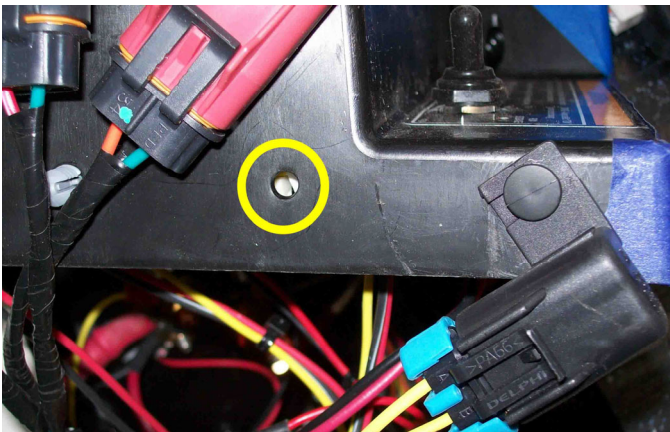

Fig. 8
2. Relocate the fuse holder to the next hole to the left of the original placement. The location is seen in the picture and is circled in yellow. (Fig.8)